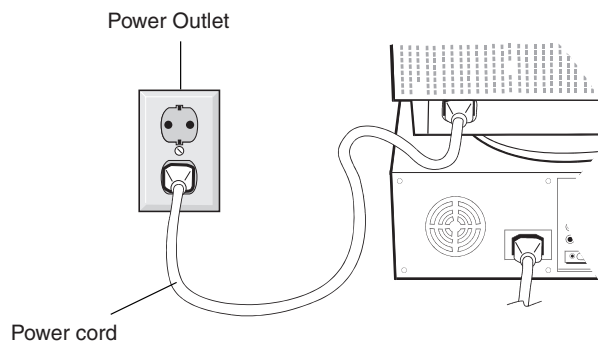

Figure C.1
4. Connect one end of the power cord to the monitor and the other end to the power outlet (**Figure C.1**).